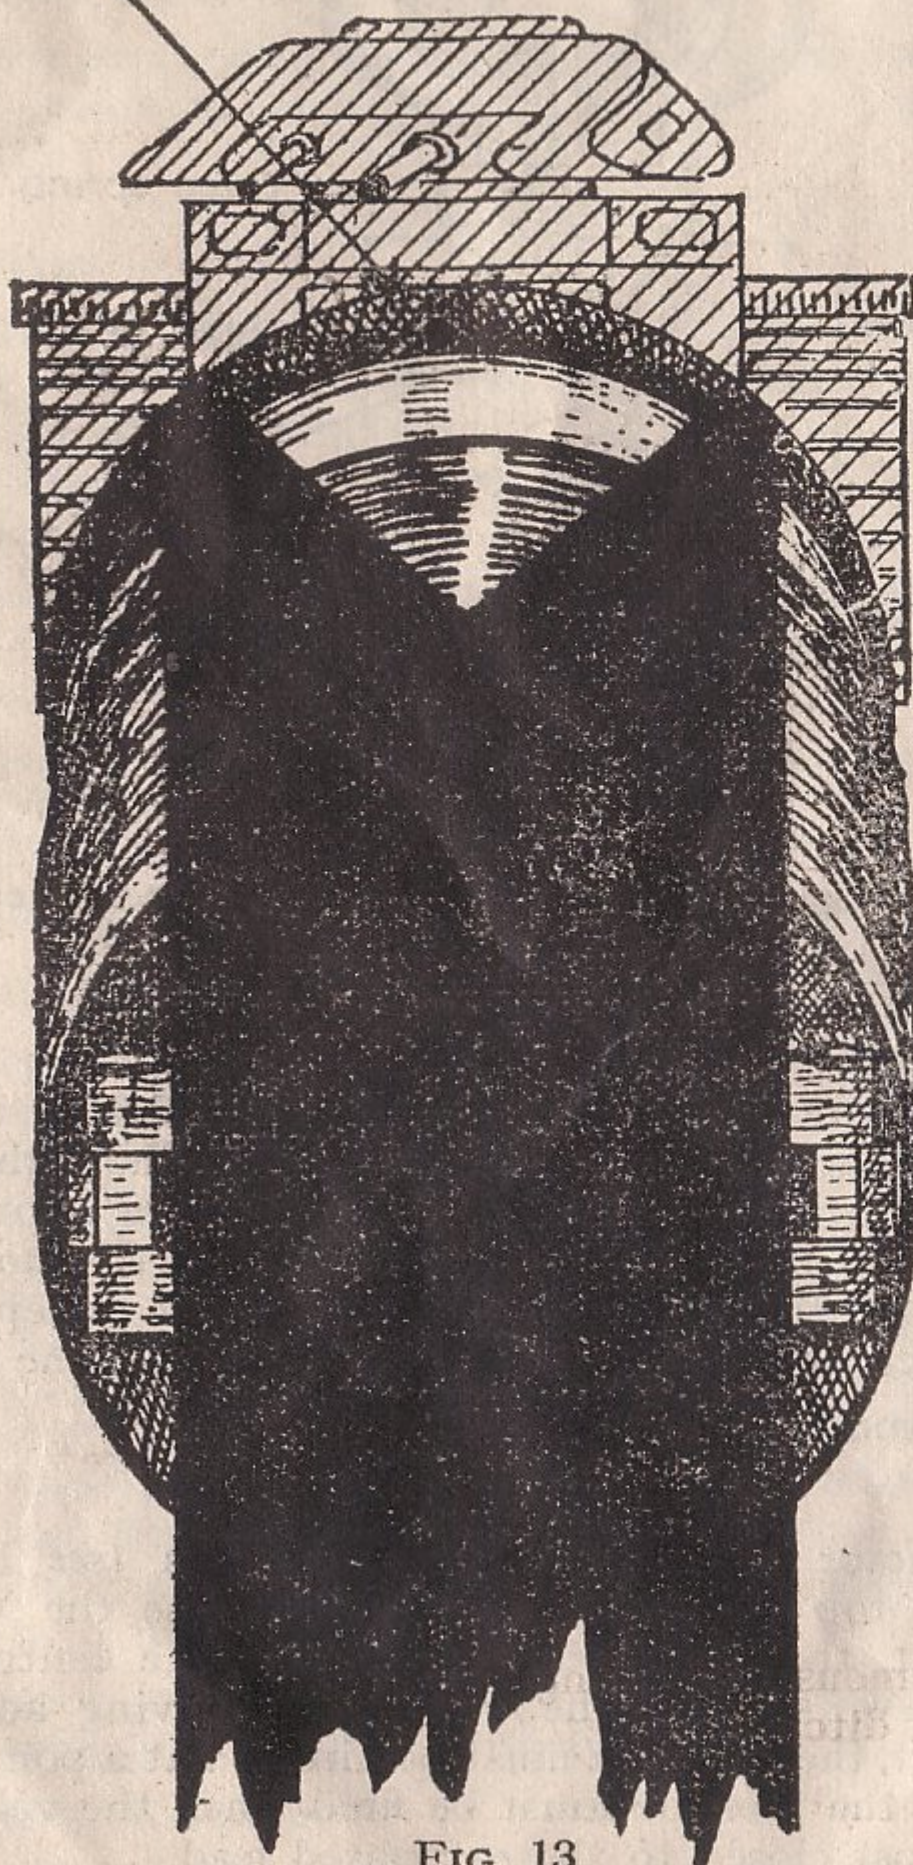

FIG. 13
i. Instructor explains, using a diagram (see Fig. 13).